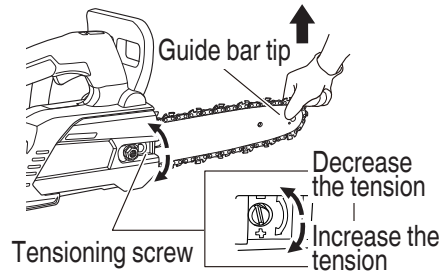

Fig. 15
5. Adjusting the saw chain tension (Fig. 15)